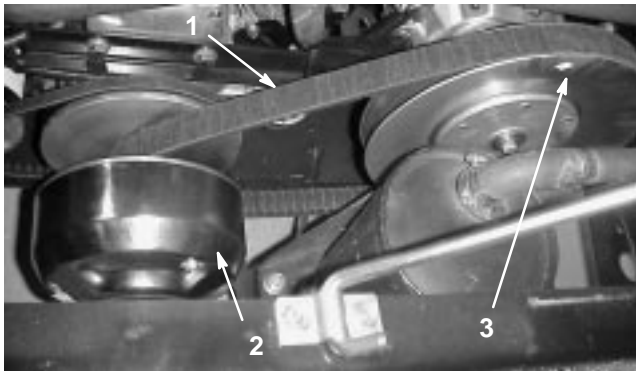

Figure 33
3. Rotate and inspect the belt (Fig. 33) for excessive wear or damage. Replace the belt if necessary.
1. Rotate and route the belt over the secondary clutch (Fig. 33).
2. Remove the belt from the primary clutch (Fig. 33).